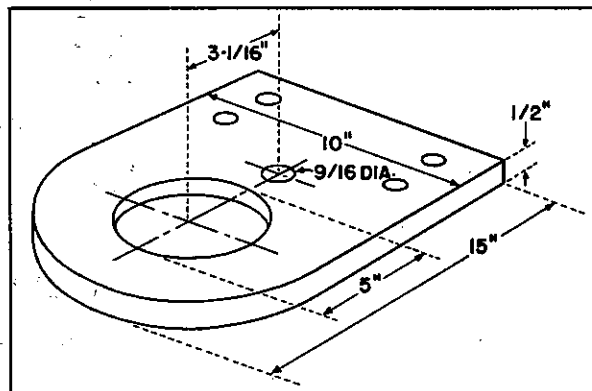

Figure 6
6. Remove two socket head cap screws from pump adapter cover. NOTE: Service may be facilitated by bolting the unit to a special bench mounted assembly plate. (See Figure 6 — Foot Mounting and Flange Mounting).